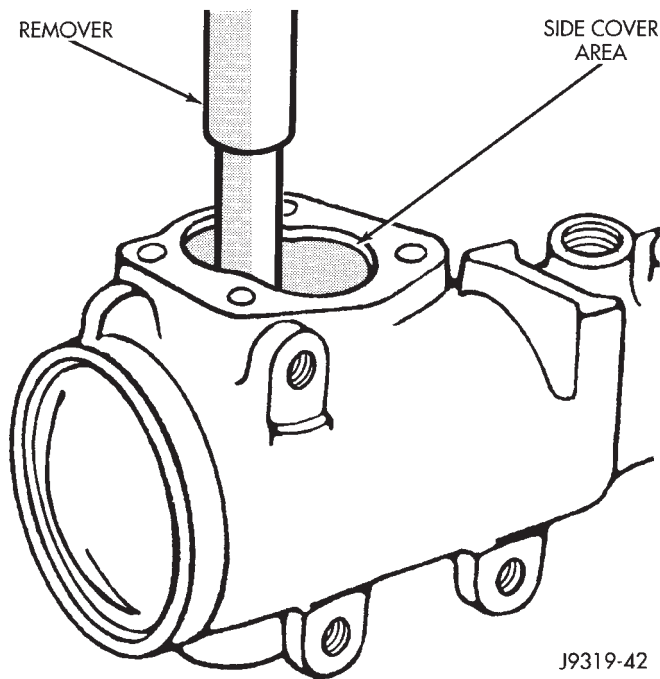

Fig. 37 Needle Bearing Removal
(4) Remove backup washer and double lip seal with screwdriver.
(5) Remove backup washer and single lip seal with screwdriver.
(6) Inspect the housing for burrs and remove if necessary.
(7) Remove needle bearing from side cover area of housing using tool C-4177 and handle C-4171 (Fig. 37).